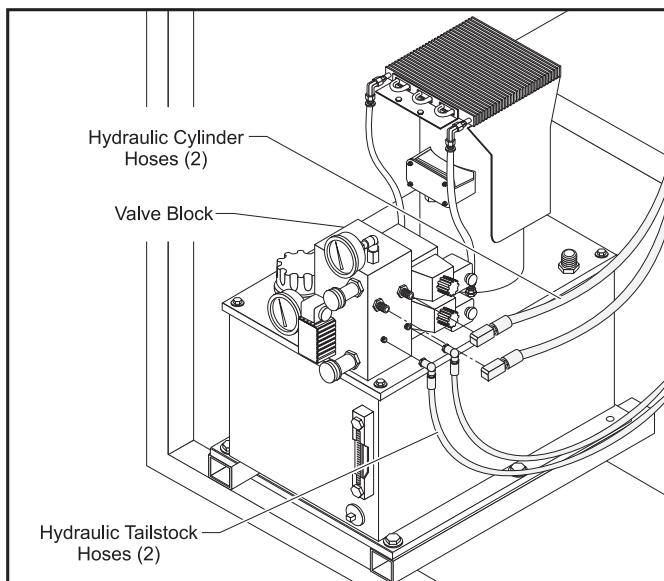

Figure 11-16 Hydraulic unit pump.
2. If it is necessary to change the clamping force on the part, refer to Figure 11-16 (below) and the Drawtube Force Chart on the next page to adjust the hydraulic pump pressure.